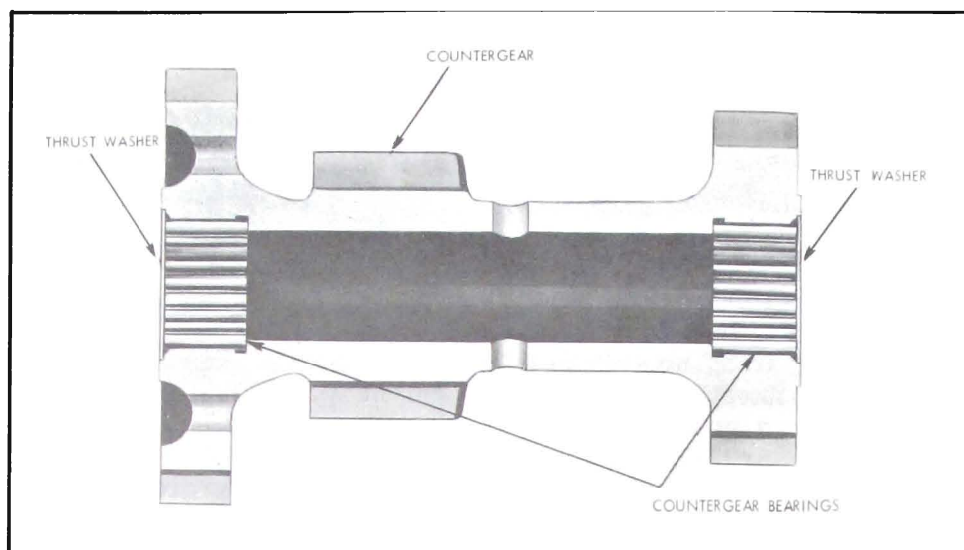

Figure 4-34—Countershaft and Bearings
6. Place some cup grease in the roller bearing area on each end of countergear. Insert Tool J-5777 in countergear. Install 25 roller bearings in each end. Apply grease to bearing thrust washers; place one of each at each end of countergear. See Figure 4-34.